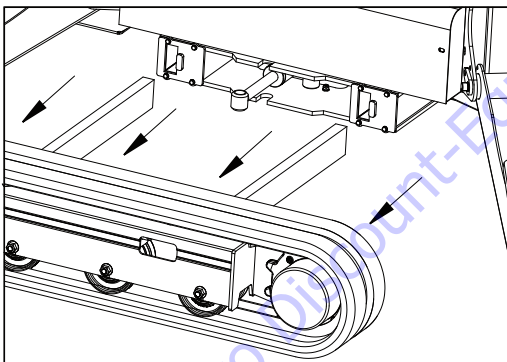

Figure 3-13.
6. Remove the cotter pin 1 - (figure 3-13)